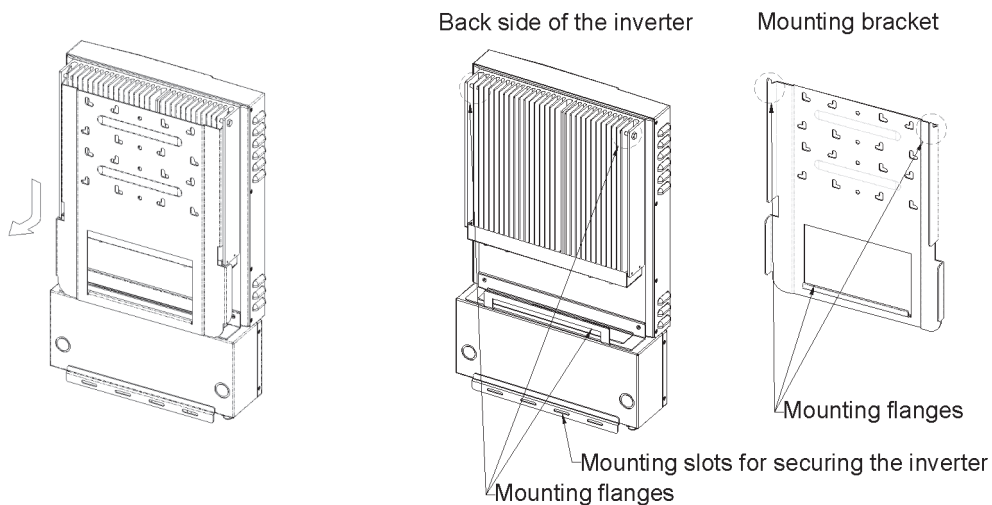

Fig. 2.2.1 Removal of the mounting bracket from the inverter
1. After removing the inverter from the carton, the attached mounting bracket must be removed by sliding the bracket down and away from the inverter as shown in the figure 2.2.1 below.